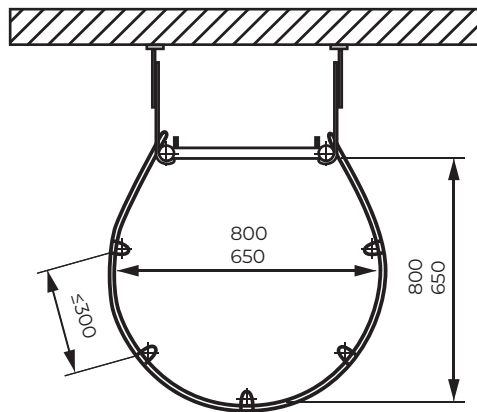

Figure-1 – Clear Distances Inside the Safety Cage
- The cage diameter must be between 650–800 mm; the gap between vertical elements  $\leq 300$  mm, and the ring spacing  $\leq 1,500$  mm (see Figure-1)